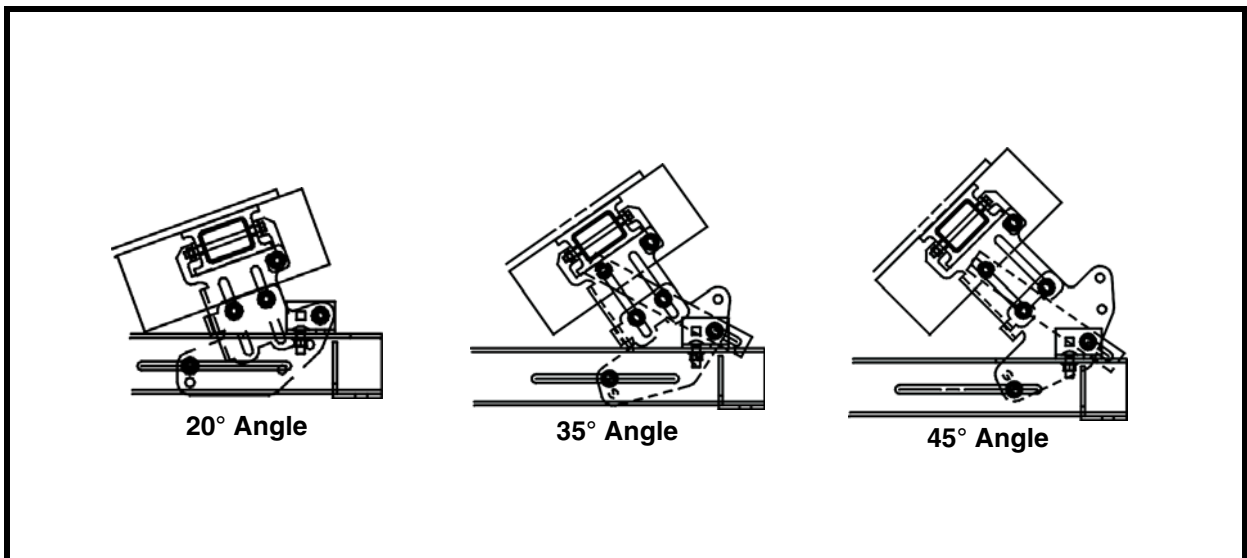

Figure 3. Setting Trough Angle
10. Set trough angle by selecting the proper hole configuration that matches the belt profile (20-, 35-, and 45-degrees), apply bolt, washer and nut, and secure loosely (See Figure 3).
10. Set trough angle by selecting the proper hole configuration that matches the belt profile (20-, 35-, and 45-degrees), apply bolt, washer and nut, and secure loosely (refer to Figure 3).